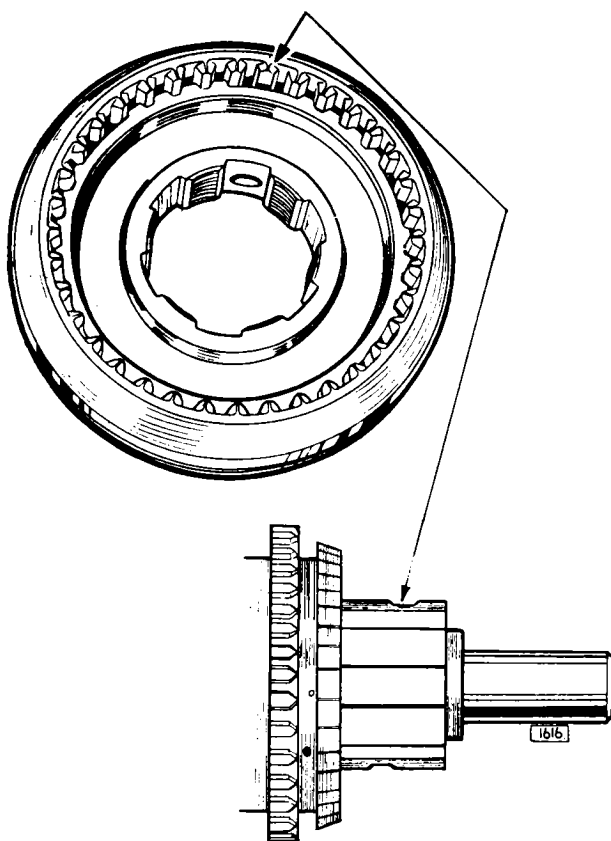

Fig. 18. The relieved tooth at the wide chamfer end of the outer operating sleeve must be in line with the foremost groove in the mainshaft.
- (a) There are two transverse grooves on the mainshaft splines which take the 3rd/top synchro assembly and the relieved tooth at the wide chamfer end of the outer operating sleeve must be in line with the **foremost** groove in the mainshaft (Fig. 18). Failure to observe this procedure will result in the locking plungers engaging the wrong grooves thereby preventing full engagement of top and third gears.